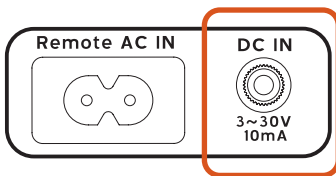

Figure 3a
- A. Connect the Remote DC Control Cable (included) into the outlet labeled "DC IN" on the rear panel of the Power Console. (Fig. 3a)